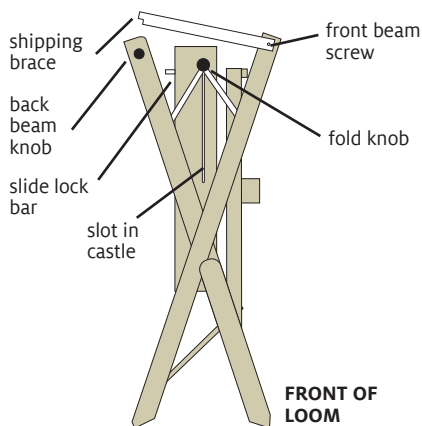

FIGURE 2: UNPACKING AND UNFOLDING
- Remove the front beam: unscrew the front beam screws and barrel nuts holding it in place—see Figure 2. Take the front beam completely off the loom. (The loom ships with the front extension facing inward to prevent damage.)